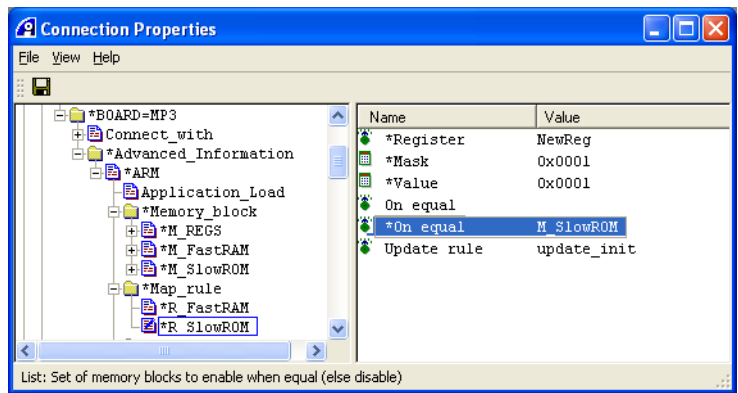

Figure 4-30 Settings for the R\_SlowROM map rule
6. Set the value of \*On\_equal to **M\_SlowROM**. Figure 4-30 on page 4-52 shows an example: